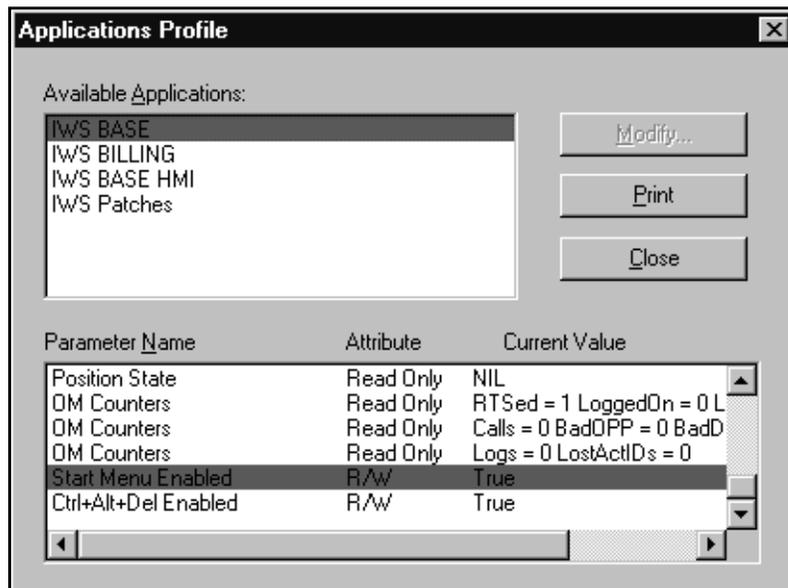

FIGURE 85. Start Menu Enabled Set to True
- b. Press Alt+S to change the setting of the Start Menu Enabled variable to true as shown in Figure 85.